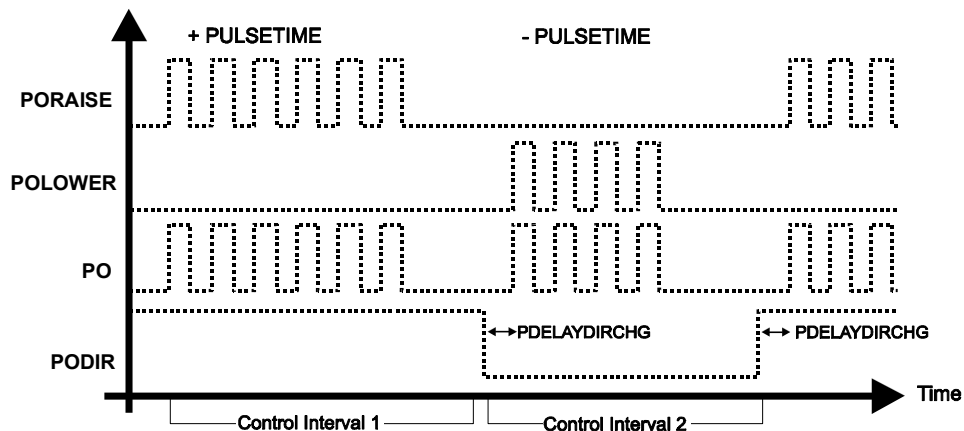

Figure 27 Example of pulse count control algorithm outputs
Figure 27 shows a sample of output pulses generated by the Pulse Count control algorithm. Keep the following things in mind when viewing Figure 27.
- The PODIR only changes at the beginning of a control interval. The sample pulse shown in Figure 27 has a configured Direction Change Delay (PDELAYDIRCHG) of non-zero.